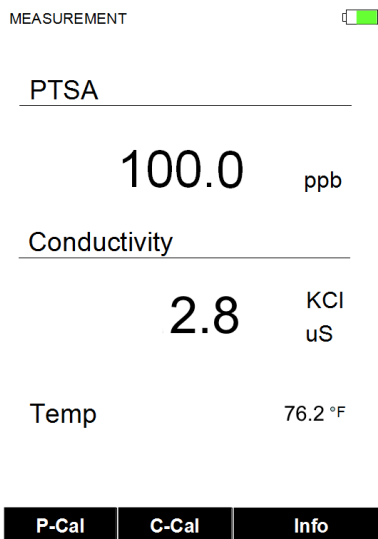

Figure 8
- 12) **Press the Exit labeled key (OK)** to return to the measurement screen. The screen will be similar to Figure 8. Slight variance in the PTSA value is not problematic. If Exit is done before the second checkmark appears, the calibration will not be completed and must be re-done.